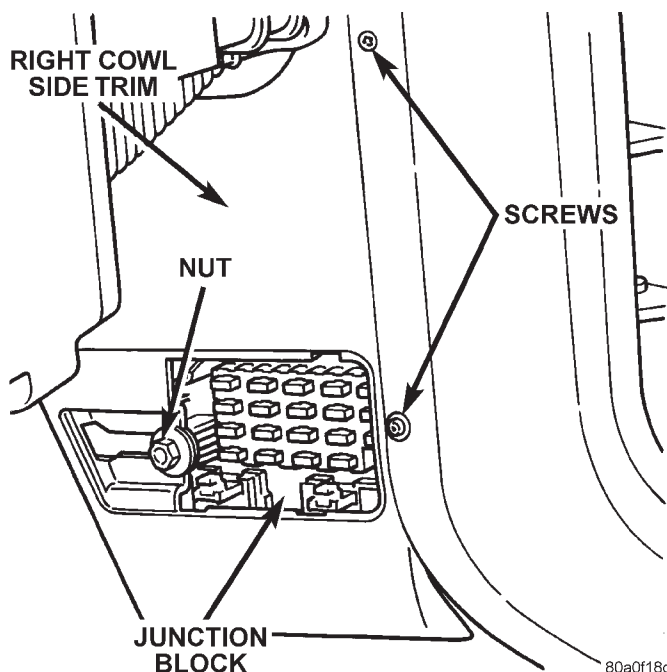

Fig. 4 Right Cowl Side Trim Remove/Install
- (1) Disconnect and isolate the battery negative cable.
- (2) Remove the fuse access panel by unsnapping it from the right cowl side trim panel.
- (3) Remove the nut securing the right cowl side trim to the junction block stud (Fig. 4).
- (4) Remove the two screws securing the right cowl side trim to the right front door opening trim.